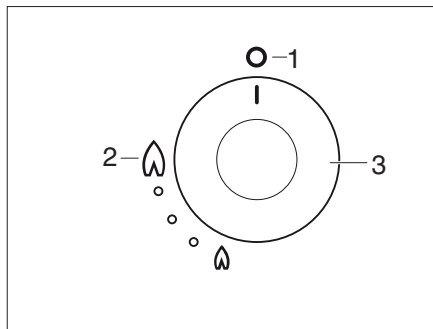

Fig. 169 Control knobs of the burners
- ▶ Push and turn the control knob (Fig. 169,3).
- ▶ Turn the control knob anti-clockwise to the full rate position (Fig. 169,2).
- If the burner accidentally extinguishes turn the control knob (Fig. 169,3) to the 0 position (Fig. 169,1) and wait at least 1 minute before re-igniting the burner.
- If the burner has not lit within 15 seconds turn the control knob back to the 0 position (Fig. 169,1) and release it. Wait at least 1 minute and repeat the steps above to turn on the appliance.
- ▶ Turn the control knob clockwise to the 0 position (Fig. 169,1) to turn off the burner.
Always make sure the control knob is in the 0 position (Fig. 169,1) when you have finished using the gas burners.